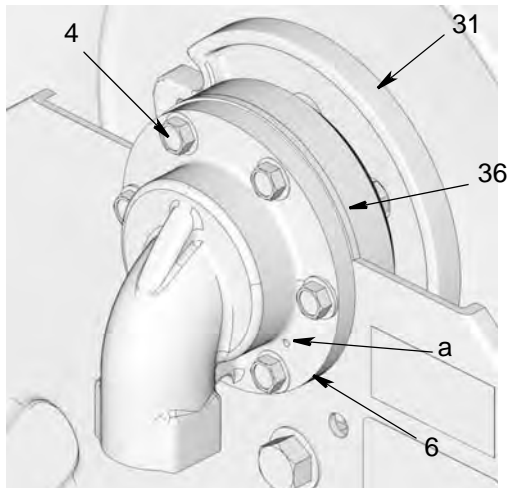

FIG. 20
- Inlet (6) is designed with a weep hole (a) (FIG. 20) to indicate a failed seal.
2. Remove six bolts (4) (FIG. 20).